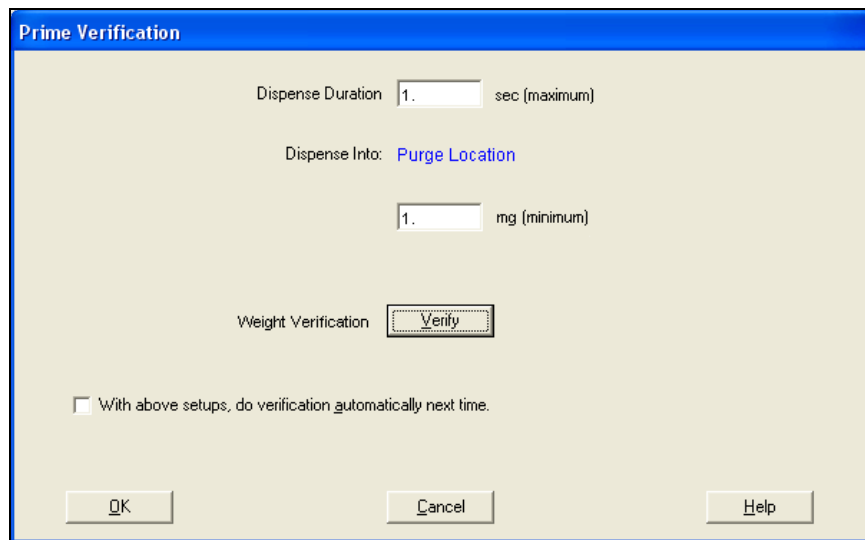

Figure 2-9 Prime Verification Window
- When the Prime Verification window (Figure 2-9) opens, enter the desired time into the **Dispense Duration** field, enter the desired detection weight, and click on **Verify** to start the verification process.